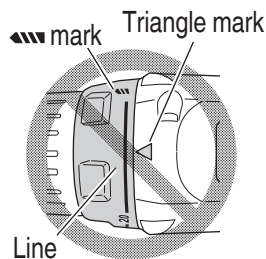

Fig. 13
- Do not use with the clutch dial set at the line between the number “20” and the drill mark “”. Doing so may cause damage (See Fig. 13).